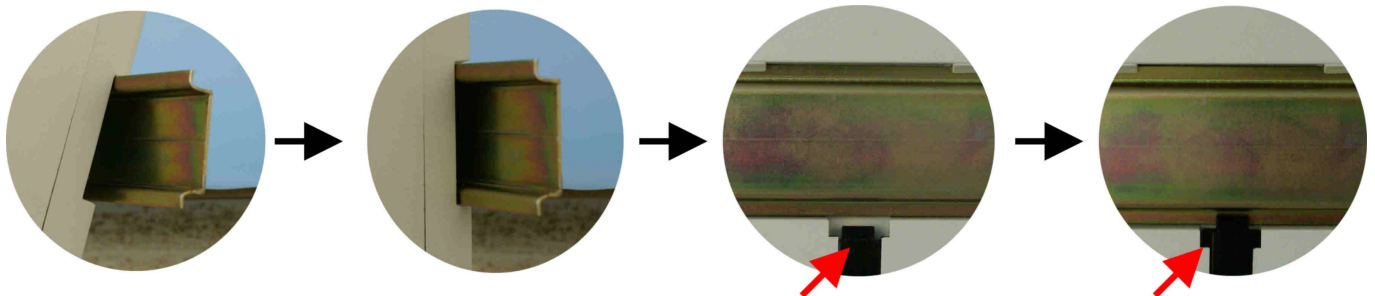

Fig.3. Installation procedure on the DIN rail.
2. Install the PSU on DIN rail: mount the enclosure on DIN rail, lock by the fastener (Fig.3).